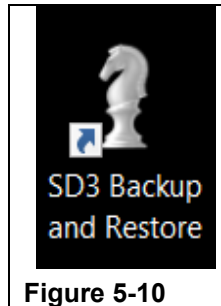

Figure 5-10
Step 1. Start the "SD3 Backup and Restore" application by Double-Clicking on the "SD3 Backup and Restore" icon.(See Figure 5-10)